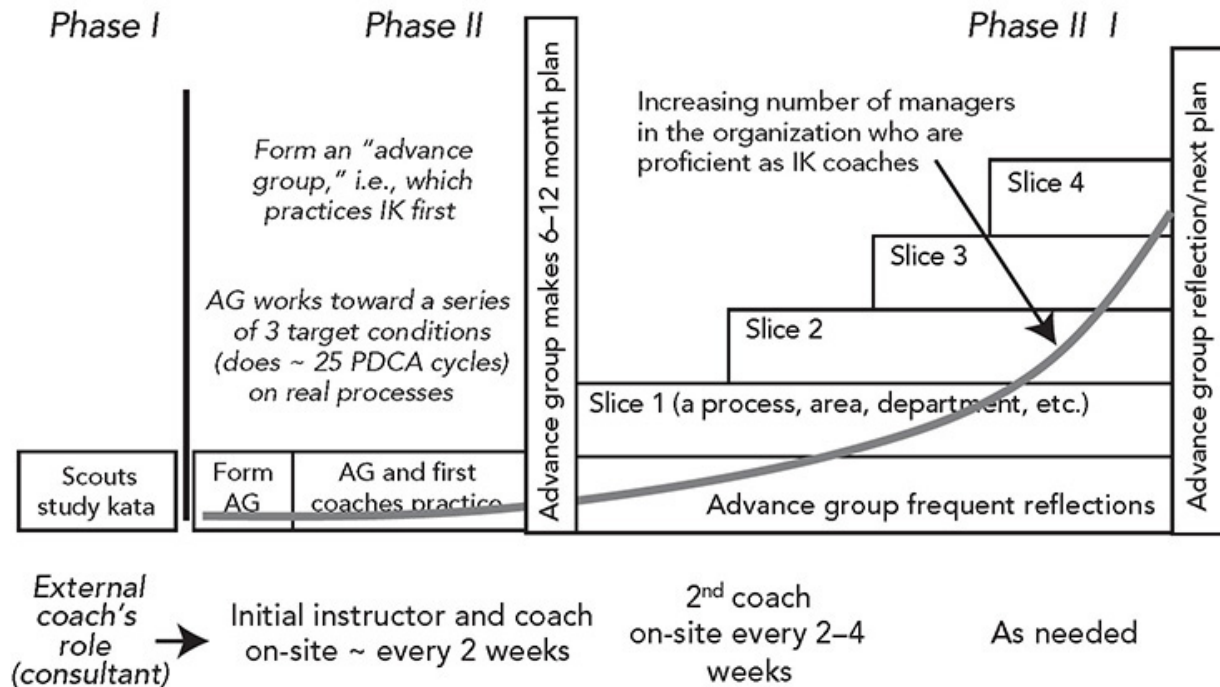

Figure C.6 One model for deploying practice.
When we think of a model line, we often think of the challenge statement as a big financial result, but the more difficult challenge is developing the capability of people. In fact, process improvement and people development go hand in hand. In Rother's model there is a key role for managers as coaches who develop scientific thinkers who practice the improvement kata. The chicken-and-egg problem is that those managers need to be coaches, but first they have to be learners to build their competencies and know-how by taking on a business challenge and practicing the improvement kata pattern to work scientifically toward it. We saw an example of this in the way Dallis was trained when he entered Toyota (see Principle 9 on leadership). The constraint at first is that there are few or no qualified coaches inside the organization. The ideal state is to have all coaching done internally with managers coaching their own teams. Figure C.6 provides one example of how this might work following the kata model. The job of the "advance group" (AG) of leaders is to monitor and guide the process (PDCA). First these leaders scout out what the kata is to see if they are interested, and then they practice it themselves with an experienced (possibly external) coach. With that experience they are then in a position to develop a plan for the next 6 to 12 months for how many coaches they will develop. This is not the usual plan with a series of milestones and dates. Rather it is a challenge to the organization.